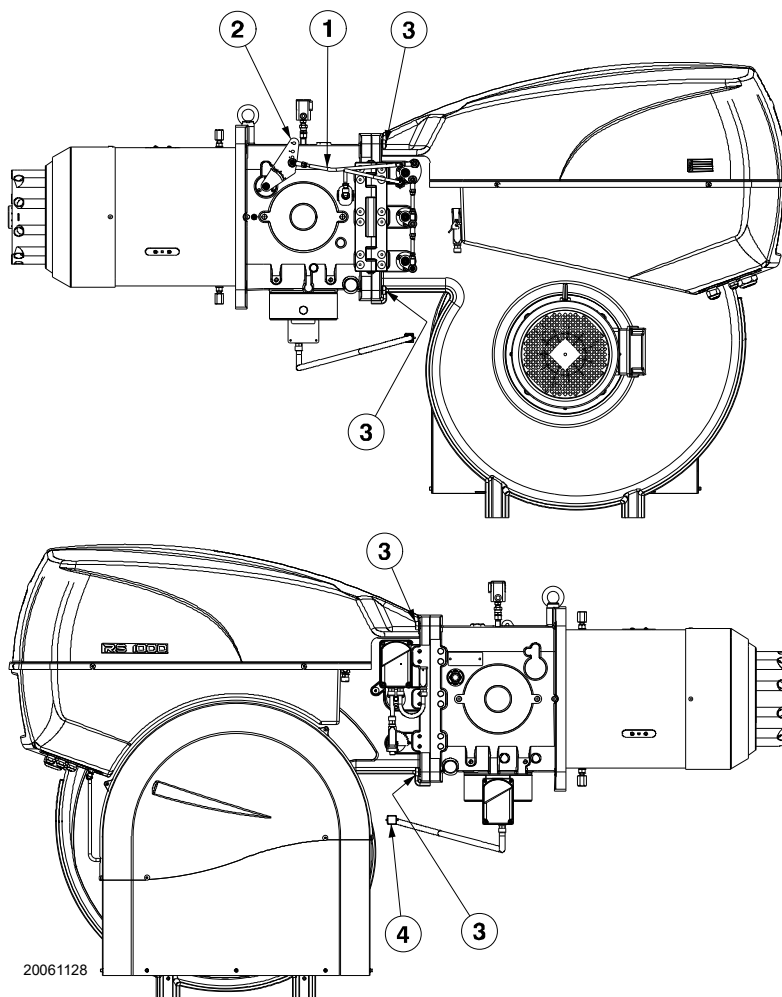

Fig. 32
- Remove the tie-rod 1)(Fig. 32) of the head movement lever, undoing the nut 2);